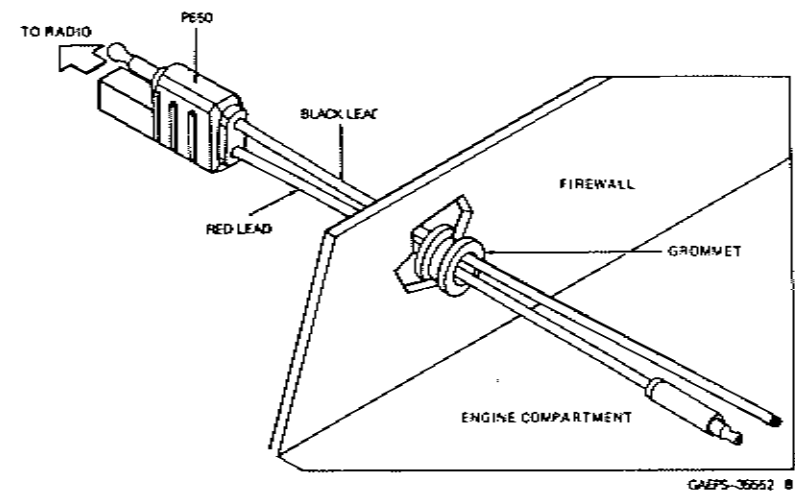
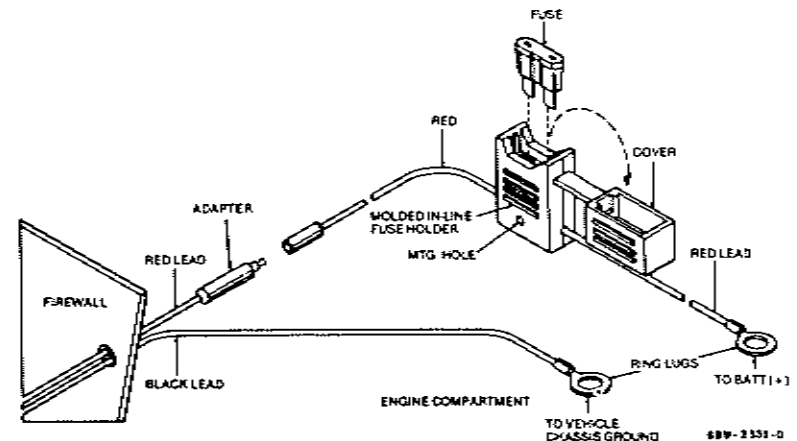

Figure 1. Power Cable Routing into Engine Compartment
Figure 2. Power Cable Assembly
- (1) Determine a routing plan for the power cable with reference to where the radio is to be mounted.
- (2) Locate an existing hole with a grommet in the vehicle fire wall, or drill a 3/8" access hole at the location for passing the power cable into the engine compartment. Install a grommet with 1/4" I.D. in the access hole to avoid damage to the cable.
- (3) From inside the vehicle, feed the red and black leads (without lugs attached) through the access hole and into the engine compartment. See Figure 1.
- (4) Locate the nearest available vehicle chassis ground mounting point and shorten the black lead to remove excess cable length.
- (5) Install ring lugs (supplied) onto stripped end of power cable black lead, and onto stripped end of red lead on fuse holder as shown in Figure 2.
- (6) Locate the fuse holder as close to the battery as possible and away from any hot engine component. Mount the fuse holder using the provided mounting hole and dress wires as necessary. Connect the fuse holder red adapter lead plug to the mating receptacle on the red lead of the power cable as shown in Figure 2.
- (7) Connect the power cable black lead directly to the vehicle chassis ground.
- (8) Connect the power cable red lead from the fuse holder to the positive (+) battery terminal. Make sure the adapter cable is connected to the main power cable red lead.
- (9) Plug fuse into in-line fuse holder as shown in Figure 2.